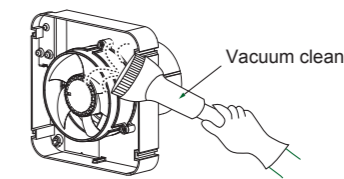

Figure 9
- When the power has been disconnected, please use the cleaning tool to remove dirt on the ventilation fan. (as shown in Figure 9)